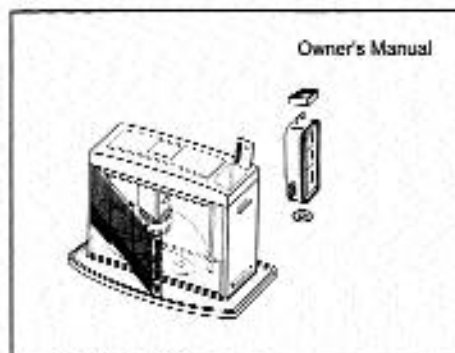

Fig. 2
1. REMOVE THE HEATER AND ALL PACKING MATERIALS FROM THE BOX (Fig. 2)